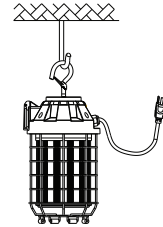

Figure 2
2. Hang on the lamp on the ceiling hook. (Figure 2)